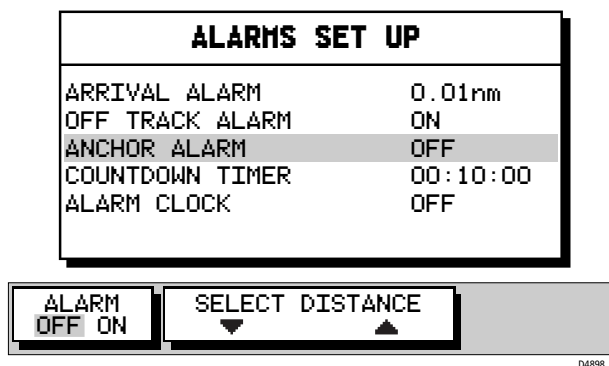

Figure 3-47: Alarms Set Up Menu
Press the **ALARMS** key. The Alarms Set Up list is displayed, showing the current settings as shown in *Figure 3-47*.
1. Use the trackpad up/down to navigate through the list. As each line is highlighted, the soft keys are updated to show the current settings and controls, as shown in *Figure 3-47*.